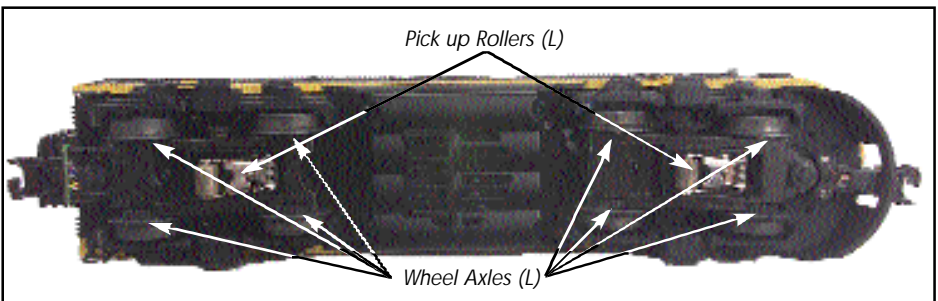

Figure 2 - Lubrication Points on the Engine
3. You should lubricate the wheel axles and pickup rollers to prevent them from squeaking. Use light household oil and follow the lubrication points marked "L" in Fig. 2 on page 8. Do not over oil. Use only a drop or two on each pivot point.
You should regularly lubricate the engine to prevent them from squeaking. Use light household oil and follow the lubrication points marked "L" in Figure 2. Do not over oil. Use only a drop or two on each pivot.